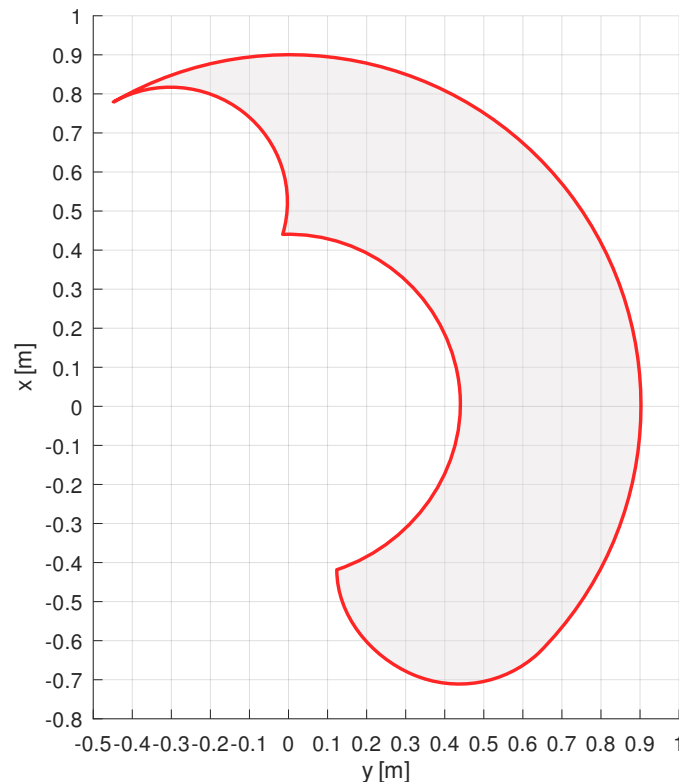

Figure 2: 2D workspace of the desired robot
- e) Draw schematically a robot arm matching the workspace shown in Figure 2 with as few revolute and prismatic joints as possible. The origin of the coordinate system  $S_0$  is located in the plot at position  $(0, 0)$ . Also provide the link lengths.